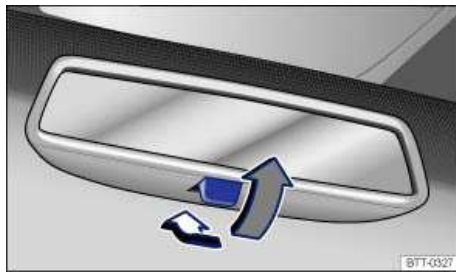

Fig. 86 Manually adjustable inside mirror.
- To adjust to non-glare visibility, move the lever so that it points backward ⇒ fig. 86.